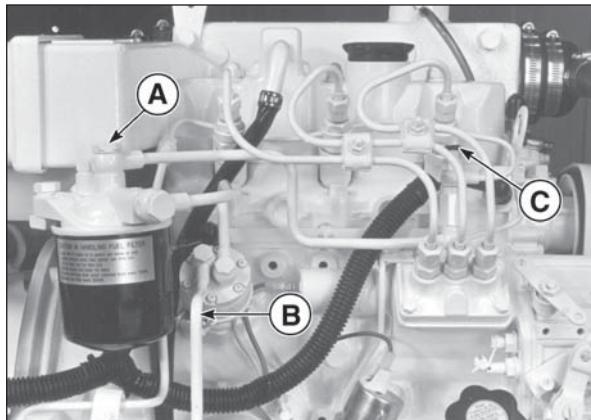

Figure 11: M773LW Fuel System.
2. Loosen bleed bolt “A” (Figure 11) on top of the filter. Pump hand primer “B” on fuel lift pump until pure fuel (no bubbles) escapes from bleed bolt “A”. Tighten bleed screw “A”.